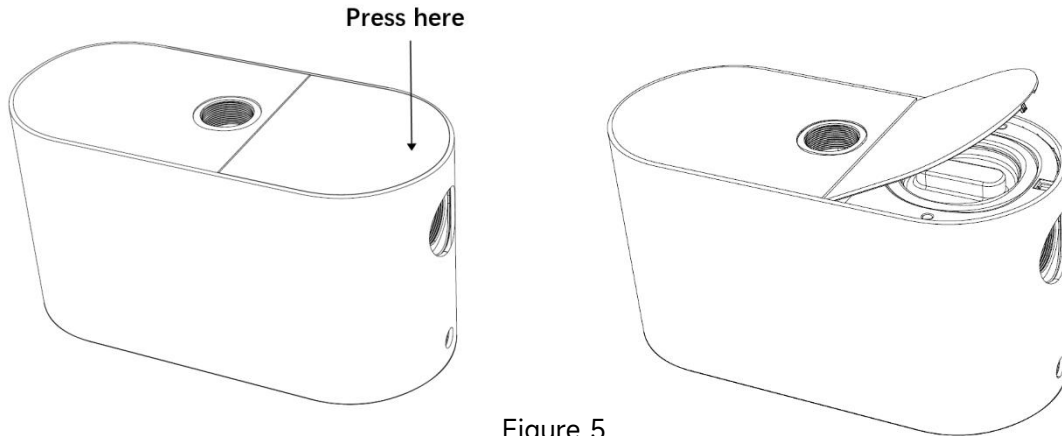

Figure 5
- 2) Press the cover plate to spring it up and open the cover plate. (see Figure 5)